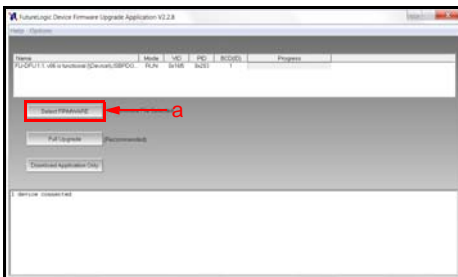

Figure 6 Click Select Firmware
- Click the Select FIRMWARE button to select the desired Firmware Upgrade file to be downloaded (Figure 6 a).